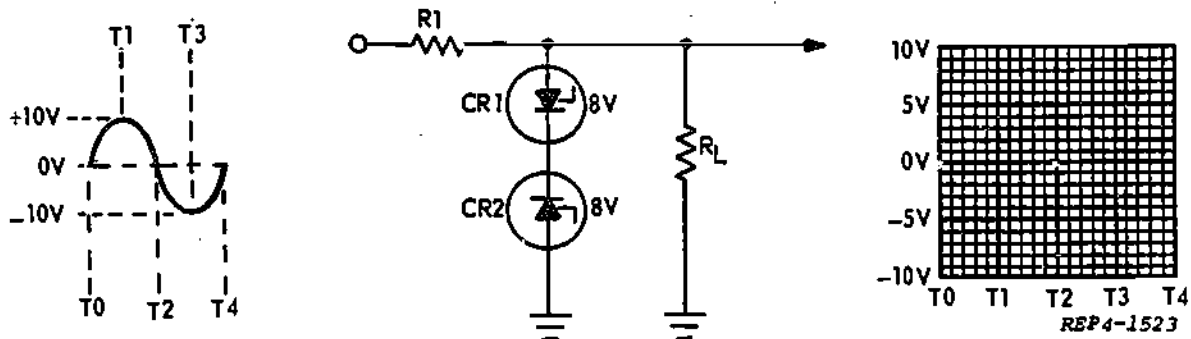

Figure 50-9
5. The schematic diagram in figure 50-9 is correctly identified as a (positive) (negative) limiter with (positive) (negative) bias.
6. The circuit in figure 50-9 is correctly identified as a _____
7. Draw the output signal on the graph of figure 50-9 for the input shown.